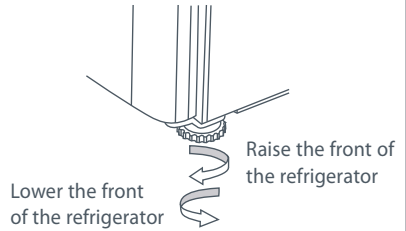

Fig.9 Refrigerator feet
- C Adjust the front feet down until the refrigerator is leaning backward with the front approximately 10 mm higher than the back. This will ensure a good door closing action. (Refer to Fig.9).